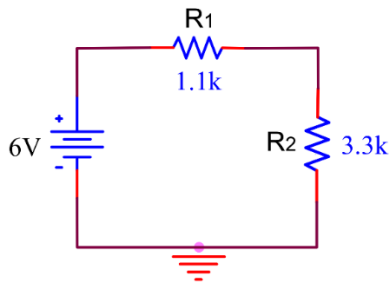

Figure 1.8
1. Calculate R_T , V_1 , V_2 and I for Figure 1.8.